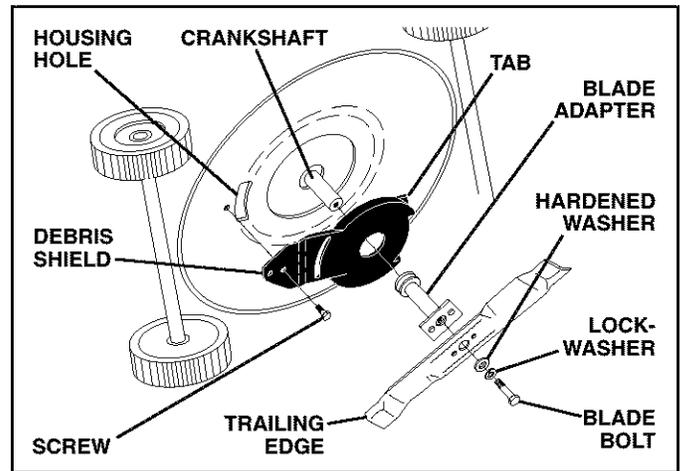

FIG. 20
6. Remove screw securing debris shield. Note that the debris shield has a tab which fits into a gap in the housing (See Fig. 20).
4. Position blade on the blade adapter aligning the two (2) holes in the blade with the raised lugs on the adapter.
5. Be sure the trailing edge of blade (opposite sharp edge) is up toward the engine (See Fig. 20).